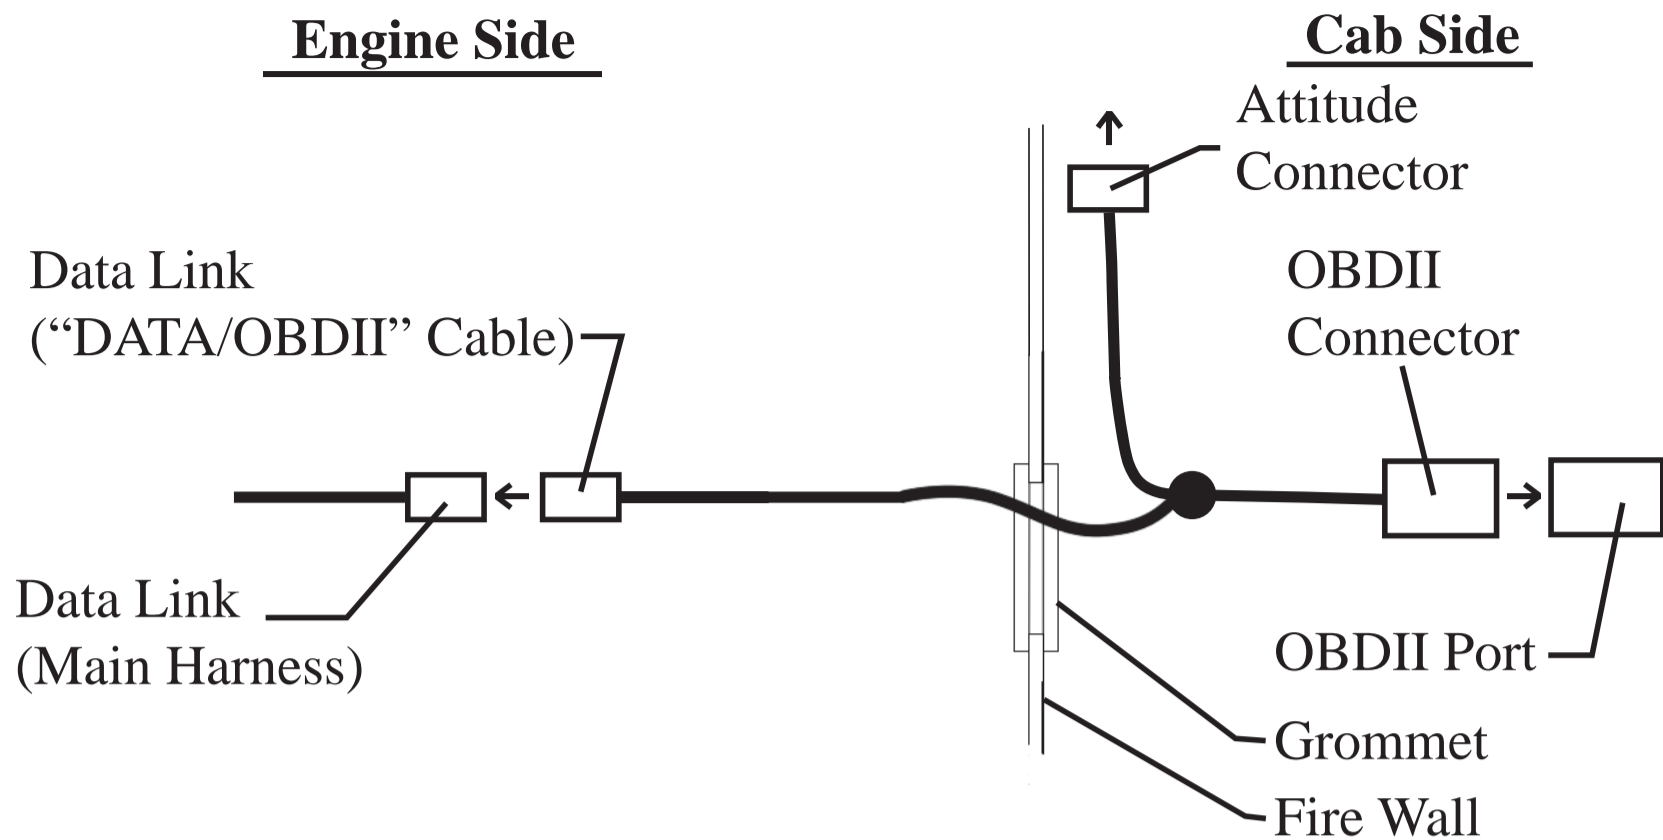

Figure 10 - Routed Data Link
4. Route the “DATA/OBDII” Data Link Connector out the rubber grommet as shown in Figure 10.
5. Plug the routed Data Link connector from the “DATA/OBDII” cable into the “Edge Main Harness” Data Link connector under the hood. (Figure 10)